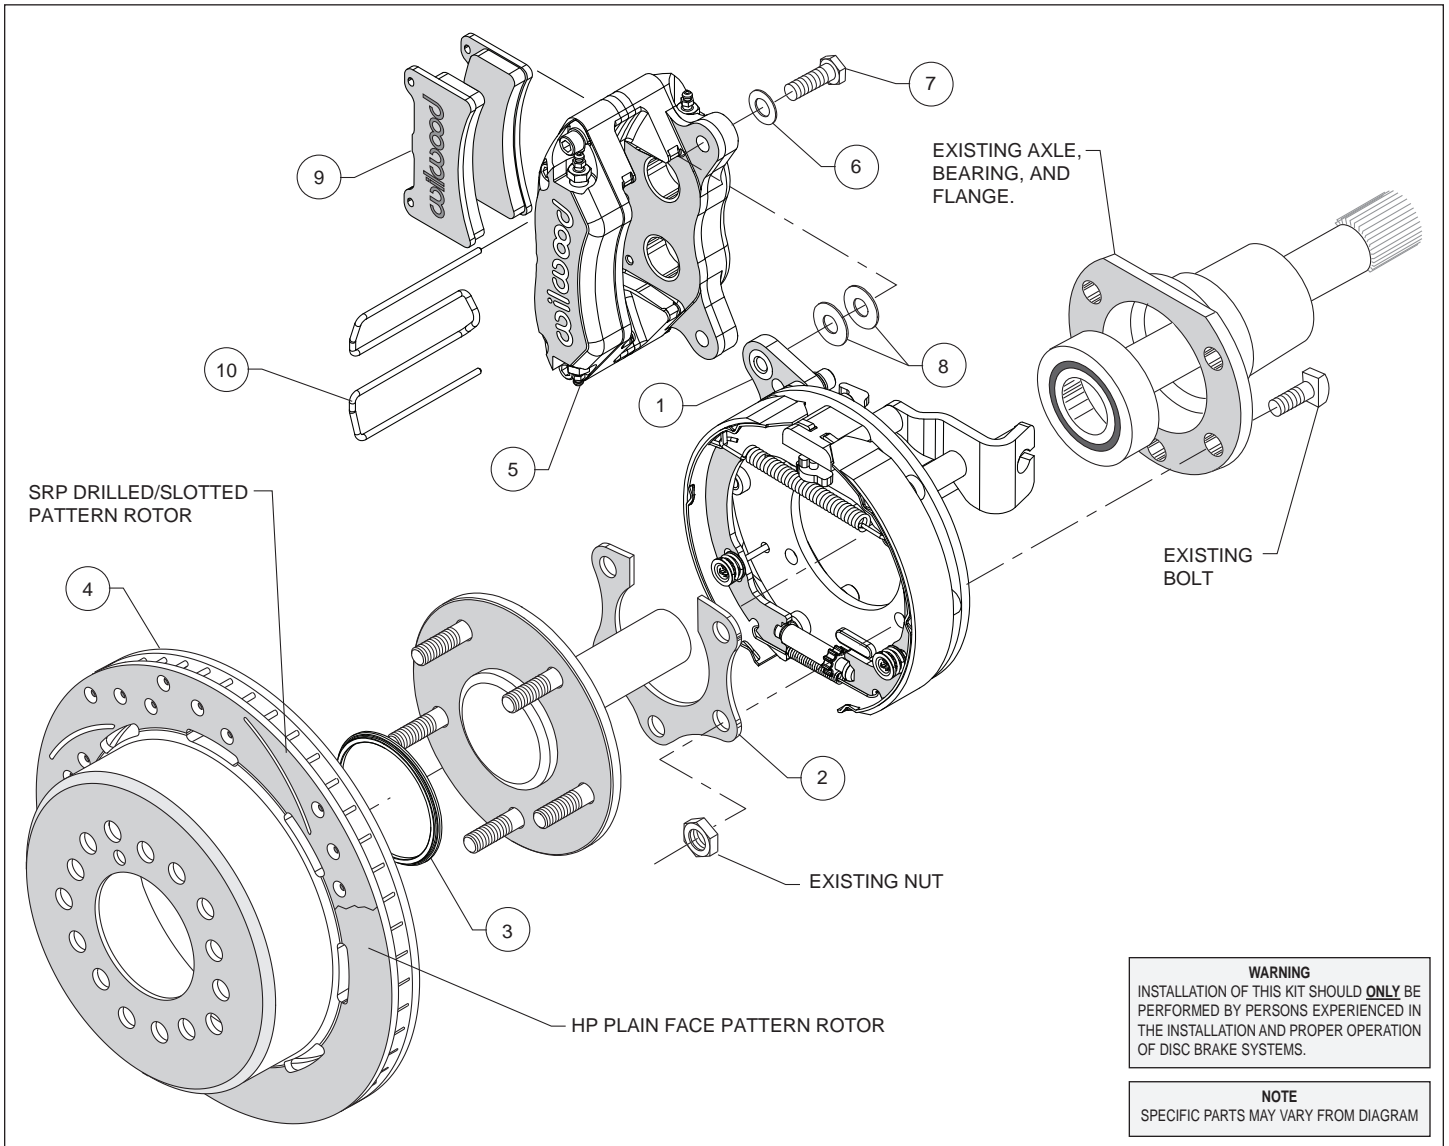
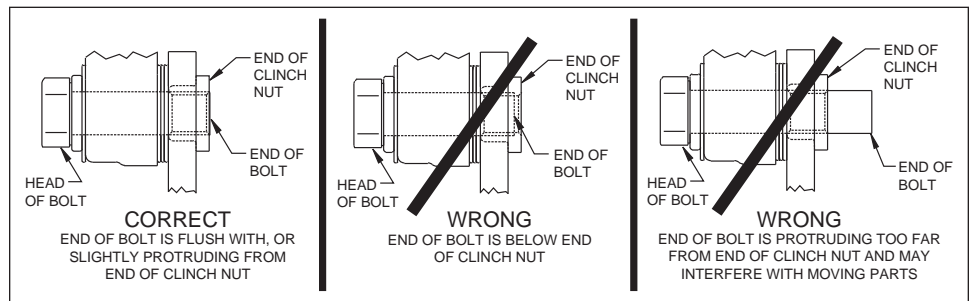

Figure 3. Typical Installation Configuration
Figure 7. Clinch Nut Engagement Diagram
Assembly Instructions (numbers in parenthesis refer to the parts list, and Figure 3 on the preceding pages): **CAUTION:** All mounting bolts must fully engage clinch nuts. Be sure to check that all bolts are either flush or protruding through flanged side of clinch nut after shimming, Figure 7.
- Determine that the appropriate snap ring style green bearing has been installed on the axle, as shown in Figure 2. Temporarily remove snap ring from bearing. Orient the bracket assembly (1) as shown in Figure 3 and Photo 1 and slide it onto the axle and over the bearing. Reinstall snap ring on bearing. Insert the axle and bracket into the axle housing. Ensure that the bracket assembly backing plate fits flush against the axle housing flange.
- Install the bearing retainer (2) with the opening pointing upward and the bearing relief step facing inward (toward the bearing), as shown in Figures 3 and 6. Secure retainer and bracket assembly to the axle housing flange using the Original Equipment Manufacturer (OEM) bolts and nuts, Figure 3. Apply red *Loctite*® 271 to the OEM bolt threads and torque to OEM specifications.
- Slide the rotor registration adapter (3) onto the axle register on the axle flange with the smaller O.D. facing toward the rotor/hat (4), Photo 2. Align the correct hole pattern in the rotor/hat with the stud pattern on the axle flange and slide into place, Figure 3 and Photo 3. **NOTE:** The rotor/hat must fit flush against the axle flange or excessive rotor run out may result. Install three lug nuts (finger tight) to keep the rotor/hat assembly in place while continuing with the installation. **NOTE:** Some OEM and after market axles come with stud sizes larger than 0.50" diameter. Verify stud size and have a qualified machine shop drill the bolt circle of the hat/rotor to the correct stud size, if necessary.
- **NOTE:** Please reference the caution statement at the beginning of the assembly instructions. Mount the caliper (5) onto the caliper mounting bracket (1) using bolts (7) and washers (6), as shown in Figure 3. Initially place two .035" thick shims (8) on each bolt between the caliper and the bracket, Photo 4. Temporarily tighten the mounting bolts and view the rotor (4) through the top opening of the caliper. The rotor should be centered in the caliper, Photo 5. If not, adjust by adding or subtracting shims between the bracket and the caliper. Always use the same amount of shims on each of the two mounting bolts. **NOTE:** The end of each bolt must be flush with or slightly protruding from the head of the clinch nut, as shown in Figure 7. If necessary place spare shims between washer (6) and caliper mounting ear to achieve the proper clinch nut engagement. Once the caliper alignment and clinch nut engagement are correct, remove the bolts one at a time, apply red *Loctite*® 271 to bolt threads, and torque to 40 ft-lb.
- Install the disc brake pads (9) into the caliper, with the friction material facing the rotor (4), and secure in place using pad clip retainer (10), Photo 6.